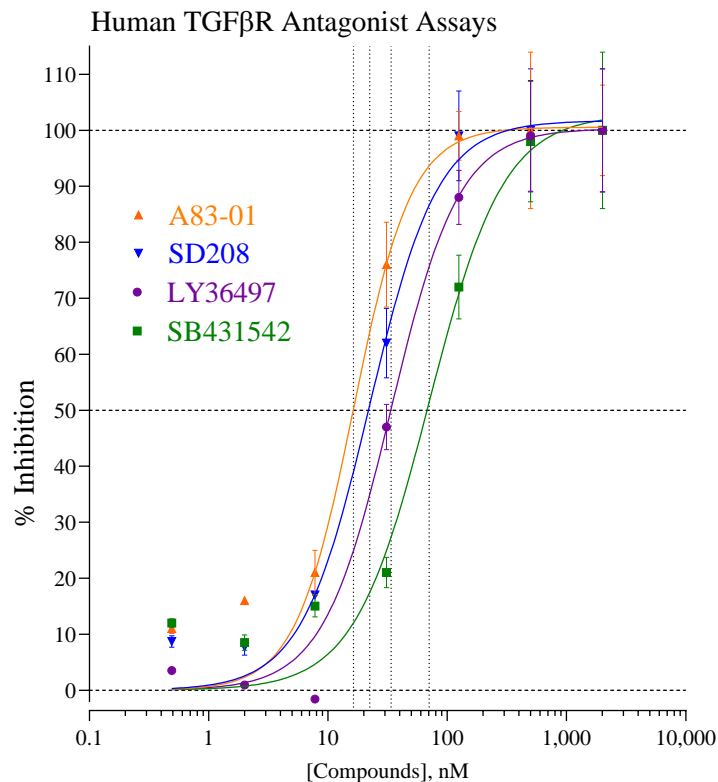

Figure 2b. Antagonist dose-response of the TGFβR.
- *Optional*: antagonist reference compound / antibody (*e.g.*, Fig. 2b.)